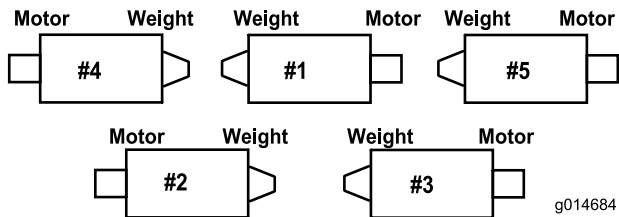

**Figure 5**
The bolt head is to be positioned to the outer side of the tab as shown in Figure 5.
D. Mount the rod bracket to the cutting-unit tabs with the carriage bolts and nuts (Figure 5).